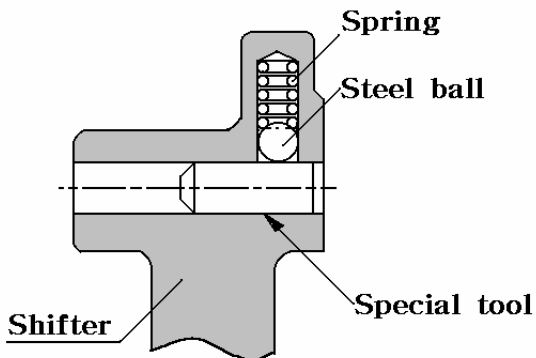

Fig.5-87
(3) Reassembly
c. When installing the shifter on the shifter stay, Use the special tool as shown in Fig.5-87